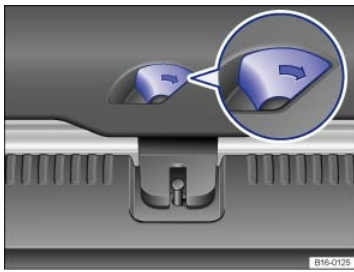

Fig. 184 Opening the trunk lid from inside the luggage compartment.
- Push the lever in the direction of the arrow ⇒ Fig. 184. The trunk lid unlatches. Push the trunk lid to open.